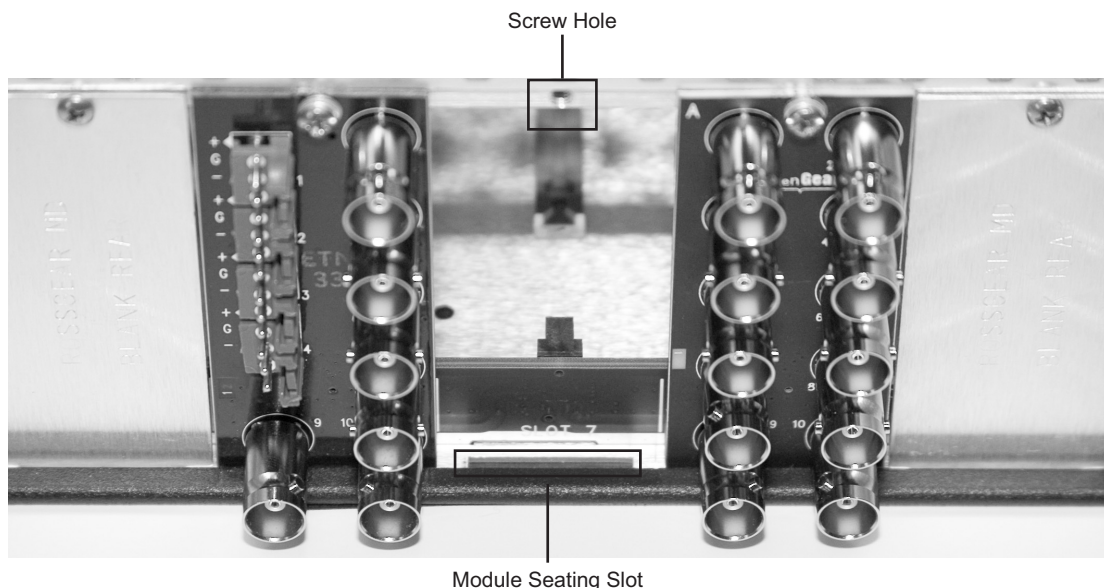

Figure 2.1 Rear Module Installation in a DFR-8310 Series Frame (SPG-8260 not shown)
3. Install the bottom of the Rear Module in the **Module Seating Slot** at the base of the frame’s back plane. (**Figure 2.1**)